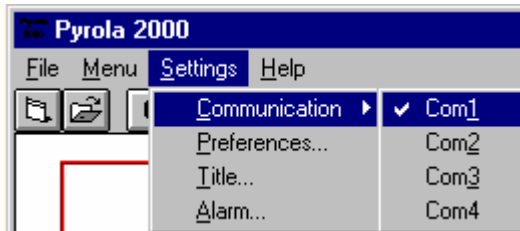

Figure 3-3
- Check which serial port the communication cable is connected to and go to 'Settings', 'Communication', see Figure 3-3. Change the port number if necessary. Then go to 'Settings', 'Preferences', check 'Pyrola unit connected' and click OK.